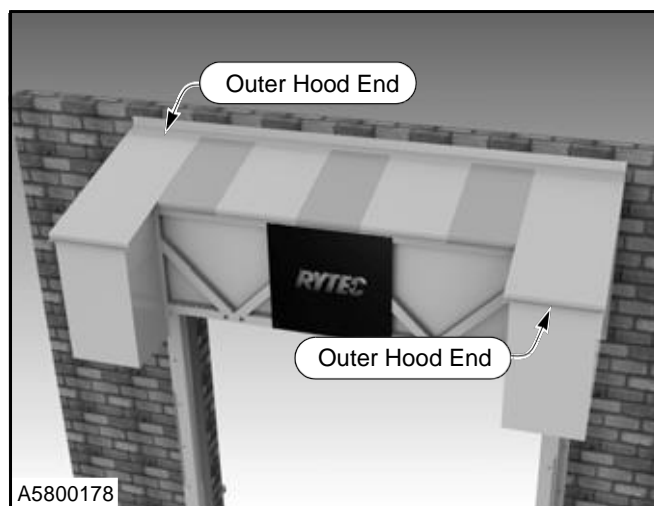
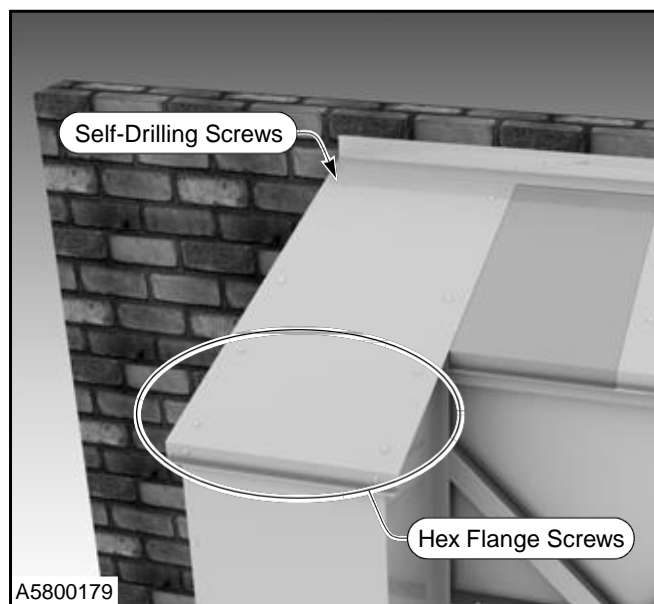

Figure 49
Figure 50
21. Install left and right outer end hoods. Use $\frac{1}{4}$ -14 x $\frac{3}{4}$ self-drilling screws and $\frac{1}{4}$ -20 x $\frac{3}{4}$ hex flange screws with $\frac{1}{4}$ -20 flange lock nuts to secure outer hood ends in place. (See Figure 49 and Figure 50)